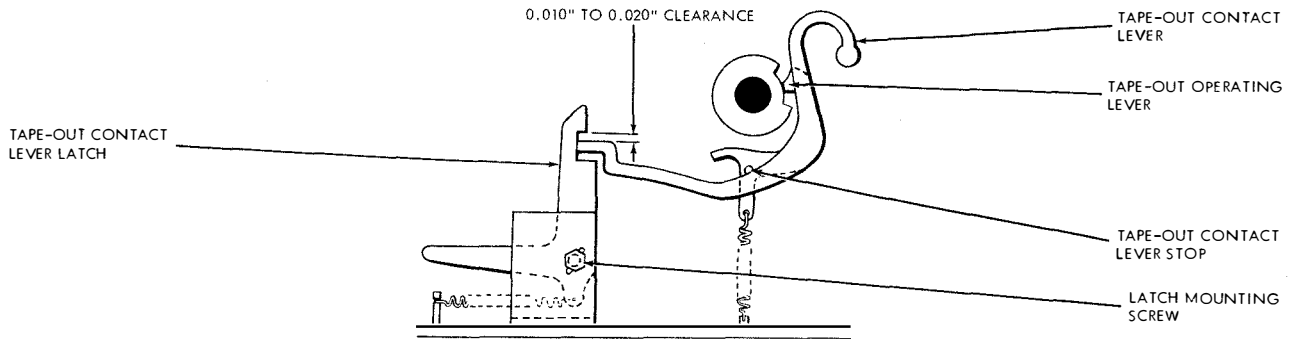

Figure 7-85. Tape-out Contact Lever Latch
(16) TAPE-OUT CONTACT LEVER LATCH. (See figure 7-85.)—When the tape-out operating lever is in the center of the low part of its cam and the tape-out contact lever is against its stop, the clearance between the top of the contact lever and the contact lever latch should be 0.010 to 0.020 inch. To adjust, loosen the nut on the mounting screw and move the latch up or down. Tighten the nut.